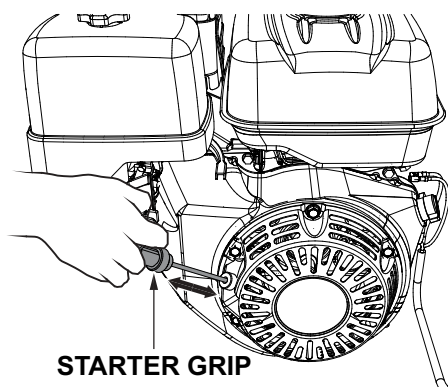

Figure 17. Starter Grip
- Grasp the starter grip (Figure 17) and slowly pull it out. The resistance becomes the hardest at a certain position, corresponding the compression point. Rewind the rope a little from that point and pull out sharply.